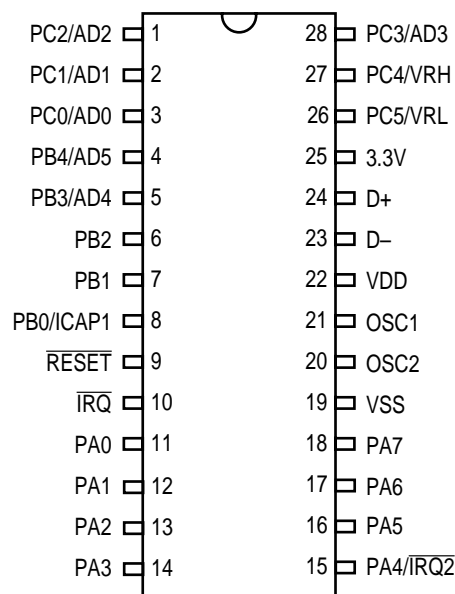
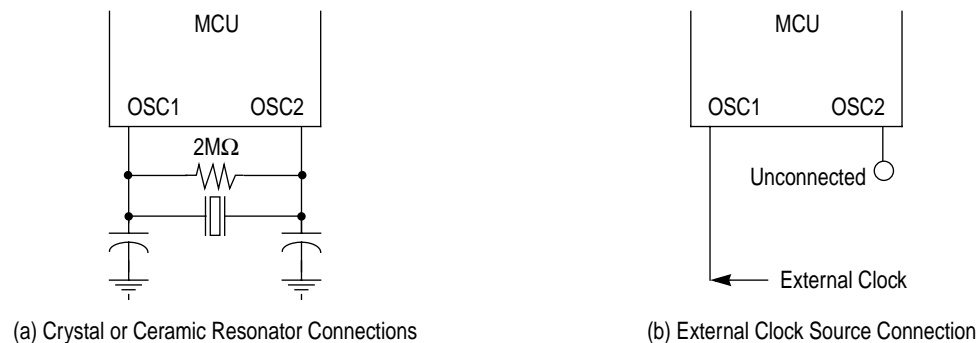

Figure 1-2. MC68HC05JB4 Pin Assignment
Figure 1-3. Oscillator Connections
The following paragraphs give a description of the general function of each pin assigned in Fig. 1-2 and Fig. 1-3.
1. A crystal as shown in **Figure 1-3(a)**
2. A ceramic resonator as shown in **Figure 1-3(a)**
3. An external clock signal as shown in **Figure 1-3(b)**
The circuit in **Figure 1-3(a)** shows a typical oscillator circuit for an AT-cut, parallel resonant crystal. The crystal manufacturer's recommendations should be followed, as the crystal parameters determine the external component values required to provide maximum stability and reliable start-up. The load capacitance values used in the oscillator circuit design should include all stray capacitances. The crystal and components should be mounted as close as possible to the pins for start-up stabilization and to minimize output distortion. An internal start-up resistor of approximately $2\text{ M}\Omega$ is provided between OSC1 and OSC2 for the crystal type oscillator as a mask option.
In cost-sensitive applications, a ceramic resonator can be used in place of the crystal. The circuit in **Figure 1-3(a)** can be used for a ceramic resonator. The resonator manufacturer's recommendations should be followed, as the resonator parameters determine the external component values required for maximum stability and reliable starting. The load capacitance values used in the oscillator circuit design should include all stray capacitances. The ceramic resonator and components should be mounted as close as possible to the pins for start-up stabilization and to minimize output distortion. An internal start-up resistor of approximately $2\text{ M}\Omega$ is provided between OSC1 and OSC2 for the ceramic resonator type oscillator as a mask option.
An external clock from another CMOS-compatible device can be connected to the OSC1 input, with the OSC2 input not connected, as shown in **Figure 1-3(b)**. This configuration is possible ONLY when the crystal/ceramic resonator mask option is selected.